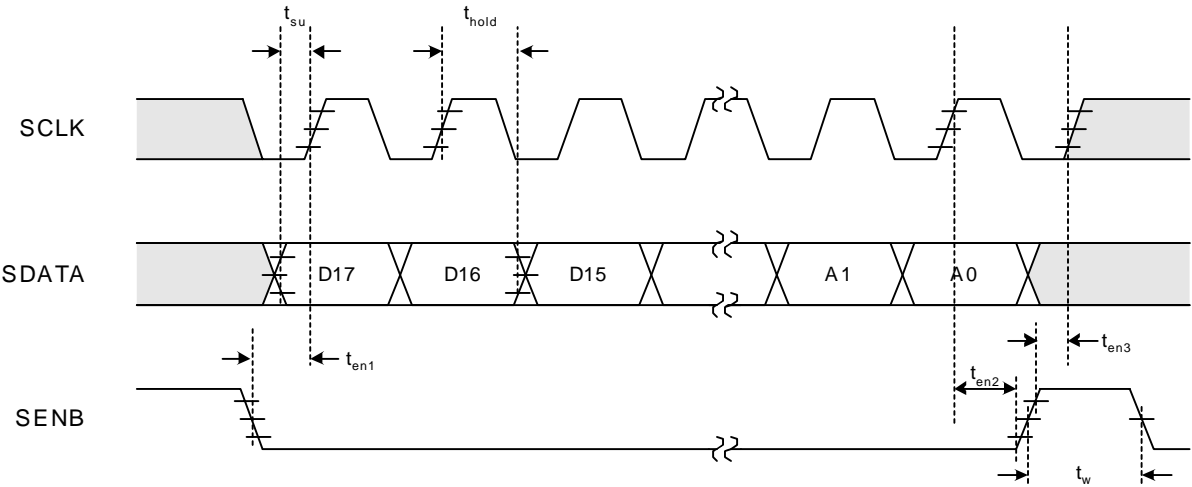
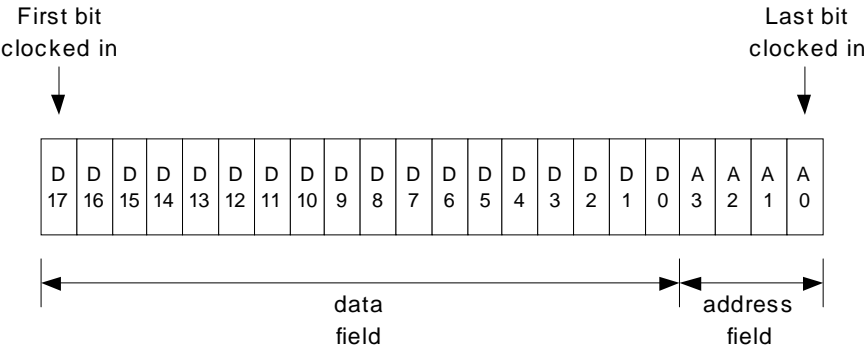

Figure 2. Serial Interface Timing Diagram
Figure 3. Serial Word Format
2. Timing is not referenced to 50% level of waveform. See Figure 2.
A timing diagram for the serial interface is shown in Figure 2 on page 7. Figure 3 on page 7 shows the format of the serial word.